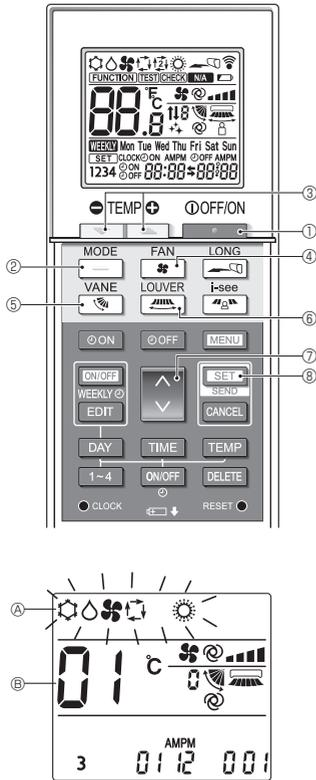

Fig. 3-3
1. Press the **STOP** button ① to stop the air conditioner.
2. Press the **SET** button ⑧ in 5 seconds. Model setting screen will be displayed.
3. Press the **MODE** button ②. Operation mode **A** blinks. (Fig. 3-3)
4. Press the **UP** button ⑦ to change setting No.